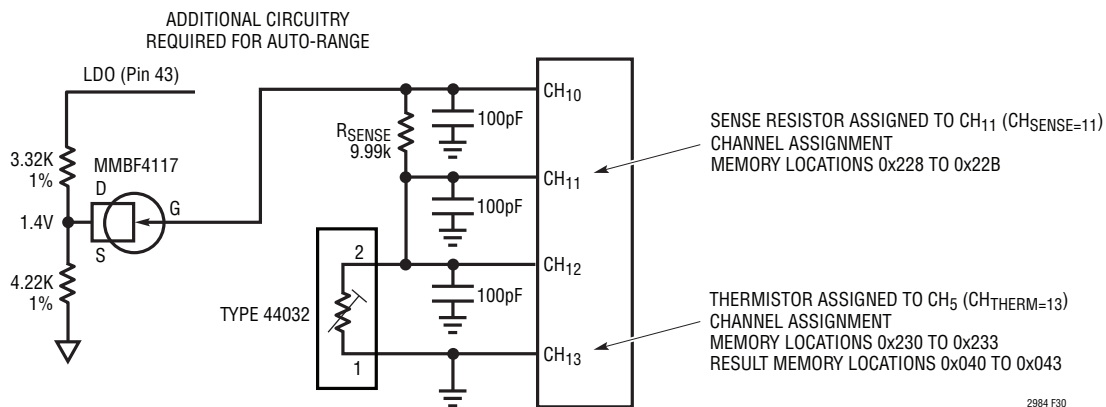

Figure 30. Differential Thermistor Example
*Additional Circuitry required for auto-range, see Figure 30 on page 55.
Figure 30 shows a typical temperature measurement system using a differential thermistor. In this example a 30kΩ (44032 type) thermistor is tied to a 9.99kΩ sense resistor. The thermistor is assigned channel CH_{13} (memory locations 0x230 to 0x233) and the sense resistor to CH_{11} (memory locations 0x228 to 0x22B). Channel assignment data is shown in Tables 62 and 63).
Note 1: Additional Circuitry required for thermistors using auto-range. See Figure 30.